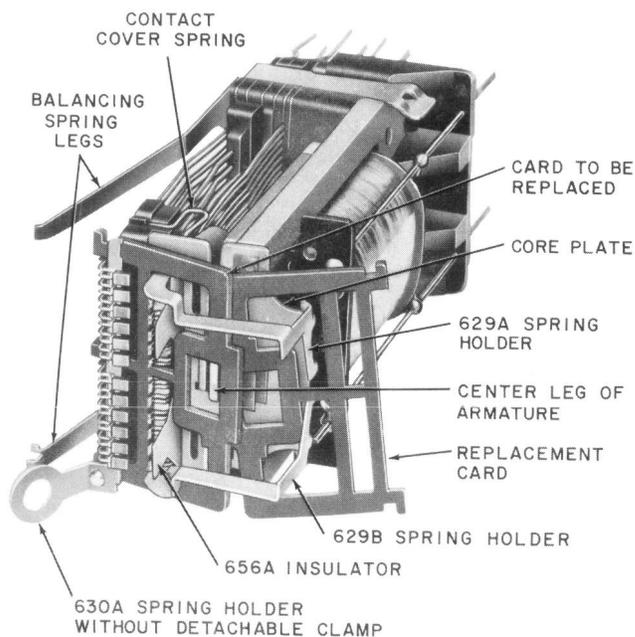

Fig. 25—12-Position Relay—Card Removal Tools Mounted in Place Except Detachable Clamp of 630A Spring Holder
4.10 Relays Having Break Contacts and Contact Cover Spring: On these relays it is necessary to prevent shorting of the movable break contact springs with the contact cover spring during replacement of the card. For this purpose, one or two 656A insulators are required. When the relay has break contacts in both the 1- through 6- and 7- through 12-position groups, two insulators are required. If only one of these groups has break contacts, only one insulator is required. To insert a 656A insulator, proceed as follows. Hold the tab of the insulator with the offset portion toward the contact cover spring. Insert the insulator between the contact cover spring and the break contact spring combination until the insulator touches the spoolhead. (See Fig. 25.)
4.11 The 629A spring holder is used to hold the break contact springs in positions 7 through 12 and the 629B holder in positions 1 through 6 during replacement of the card. Each of the tools has six notches to engage the six pairs of two springs with which it may be used. It is important that the pairs of springs are engaged by the proper notches in the tools. Special care is required to engage the break springs in the proper notches where all positions on the relay are not equipped with these springs. These spring holders are shown mounted on the relay in Fig. 25.
4.12 If there are any break contacts in positions 7 through 12, insert the 629A spring holder between the fixed and break contact springs in these positions as follows. Holding the new card with the notched ends at the left and the code and date information visible, insert the notched leg of the holder through the opening in the card adjacent to the upper right-hand corner. The shank of the holder should be adjacent to the top of the card. Hold the spring holder and new card in one hand and, with the other hand, push the card to be replaced to the right to open the gap between the fixed and break contacts sufficiently to insert the holder. Insert the notched leg of the holder into the gap with the six notches in line with the six positions (7 through 12) on the relay. Swing the outer end of the holder to the right, and clip it on the core plate as shown in Fig. 25. Release the card, and make sure that each pair of twin springs is engaged by the proper notch in the tool.
4.13 If there are any break contacts in positions 1 through 6, insert the notched leg of the 629B spring holder through the lower right opening in the new card suspended on the 629A spring holder. If the 629A spring holder was not required, place the new card on the 629B spring holder with the shank of the holder adjacent to the bottom of the card. Then push the card to be replaced to the right to open the gap between the fixed and break contacts sufficiently to insert the holder. Insert the notched leg of the holder between the fixed and break contacts with the six notches in the holder in line with the six positions (1 through 6) on the relay. Swing the outer end of the holder to the right, and clip it on the core plate as shown in Fig. 25. Release the card, and make sure that each pair of twin springs is engaged by the proper
4.14 Referring to Fig. 25, insert the 630A spring holder without the clamp between the fixed and make-contact springs as follows. Pry the card to be replaced from its position on the armature with the KS-6320 orange stick, placing one end of the orange stick over the end of the center leg of the armature and under the adjacent edge of the card. Tilt the card outward so that it can be moved over the ends of the armature legs. With the right hand, push the card to the left to open the gap between the fixed and make contacts sufficiently to permit insertion of the spring holder. With the left hand, insert the spring holder through this gap and turn the handle to the left. Release the card. Position the spring holder so that its larger projection is centered between positions 6 and 7 on the relay and the pairs of twin make springs are engaged by the proper notches in the holder.